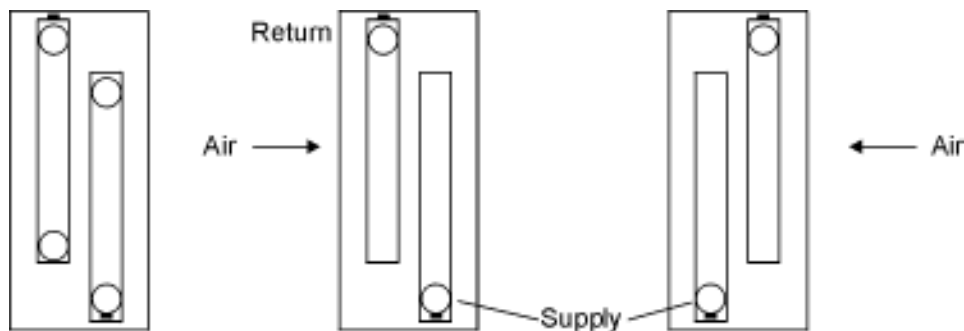

Figure 2 - Coil Diagram
4. Check the coil hand designation to insure that it matches the system. Water and glycol coils are generally plumbed with the supply connection located on the bottom of the leaving air-side of the coil and the return connection at the top of the entering air-side of the coil (Figure 2 - Connection Diagram). This arrangement provides counter flow heat exchange and positive coil drainage. If a universal coil is supplied, cap off the two unused connections.